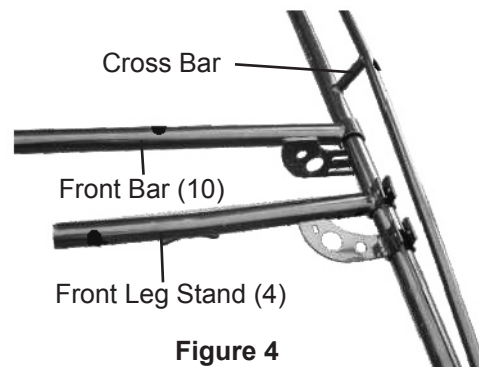

Figure 4
For Long Bed Truck (7' or more): Slide Front Bar (10) onto FRONT ends of Front Side Frames (2). Then slide Front Leg Stands (4) onto Front Side Frames so they are in front of Frame's cross bar. See **Figure 4**, below.